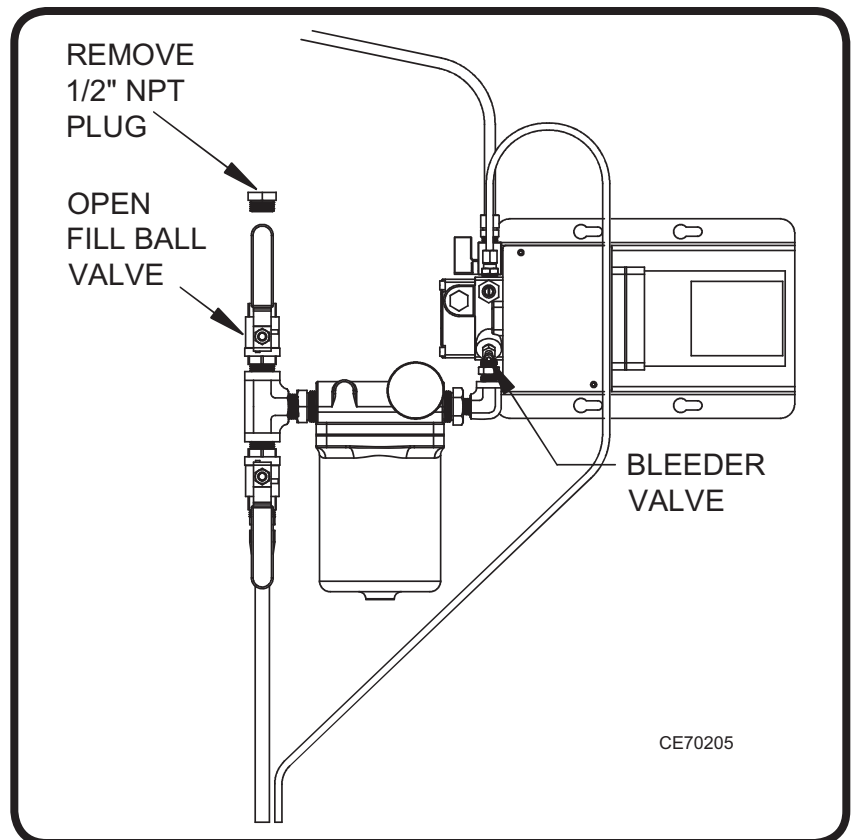

Figure 24: Priming the Metering Pump System
- (1) Refer to Figure 24.
- (2) Remove the 1/2" NPT plug and open the ball valve on the inlet of the filter.
- (3) Pour oil into the inlet of the filter until the suction oil line, filter, and pump head are full.
- (1) After the burner starts, press and hold the reset button for 15 seconds until the small yellow light on the primary control (“Pump Prime”) turns on (the burner will shut off).
- (2) Release the reset button. The yellow light will turn off and the burner will start again.
- (3) Within 15 seconds click (push and release) the reset button. This will transition the primary control to “Pump Prime” mode which will bypass the flame sensor and keep the pump on for 4 minutes.
- (4) Open the pump bleeder valve and purge all air bubbles from the pump (refer to figure 24).
- (5) After 4 minutes the yellow light on the primary control will turn off and the control will automatically return to standby mode.
- (6) Repeat steps 1 - 5 until the pump is fully primed and oil is delivered to the burner.